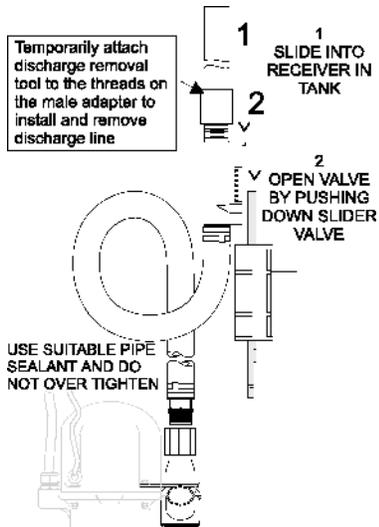
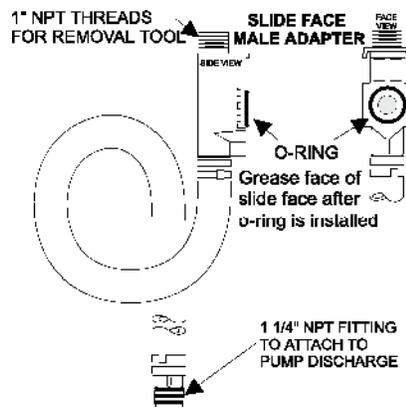

Figure 7
Figure 9
**Refer to any documentation that may have shipped with your discharge.** Attach the discharge hose to the anti-siphon check valve. Use pipe sealer on threads to ensure leak tightness (Fig. 7). Check the O-ring on the slideface adapter for adequate lubrication (Fig. 9).
Attach discharge installation tool on male adapter (Figs. 7 and 8).